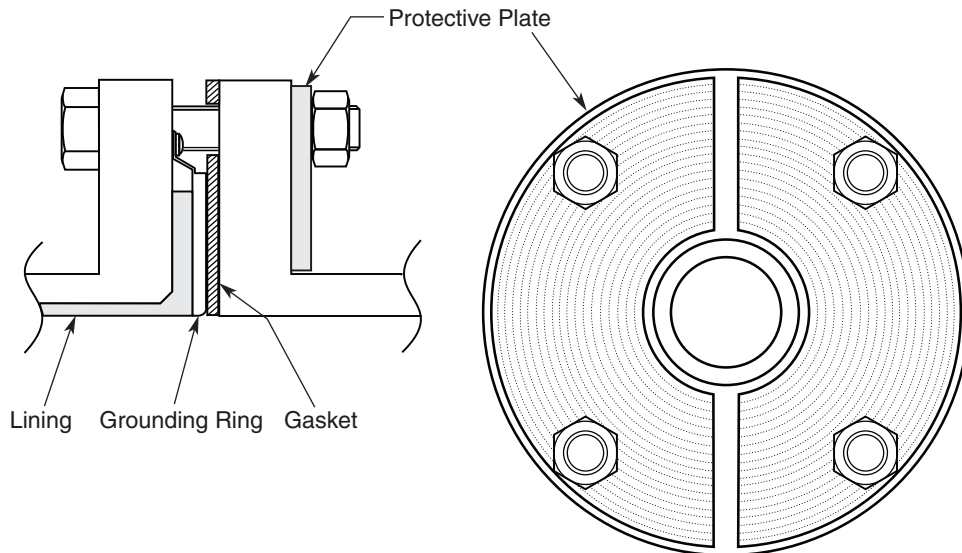

Figure 30. Installation on PVC Pipe with 316 ss Grounding Ring (with Protective Plate)
- Use this method to install the flowtube using a protective plate to prevent PVC pipe from being deformed or damaged when the bolts are tightened to the specified torque. Install the protective plate between the outer side of the PVC flange and the flowtube, as shown in Figure 30. The protective plate protects the PVC pipe from deformation or damage when secured at the specified torque. The torque level is unrelated to the pipe or grounding ring material. See Table 6 for the appropriate torque. For the internal diameters of the gaskets, see Table 7.